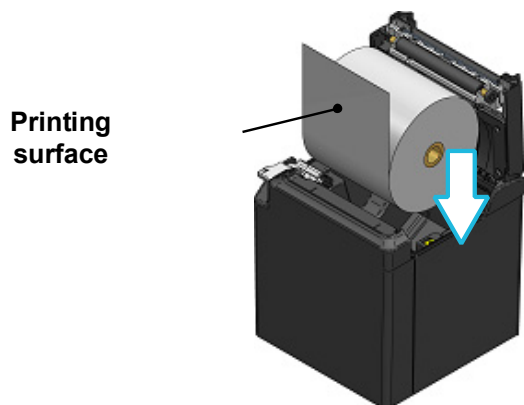
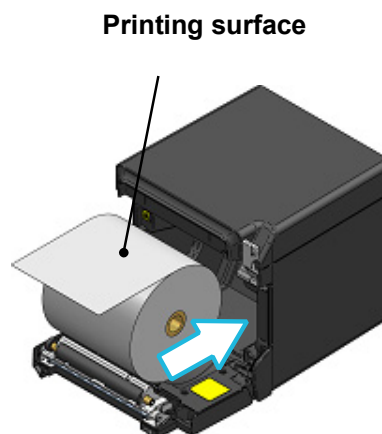

Figure 8-3 Thermal Paper Setting Direction (Top)
Figure 8-4 Thermal Paper Setting Direction (Front)
- (2) Take the glued end from the thermal paper.
- (3) Load the thermal paper into the paper holder. At the time, load the thermal paper direction as shown in Figure 8-3 and Figure 8-4.